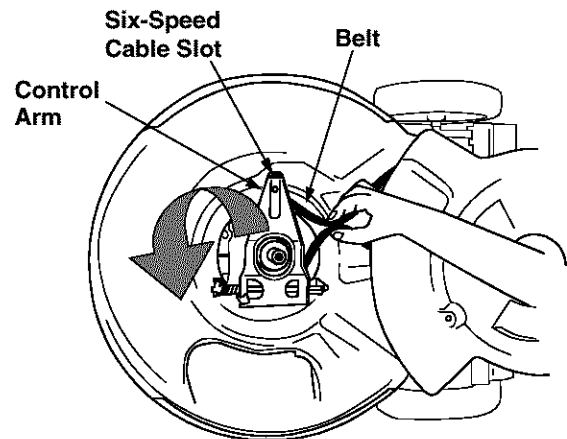

Figure 24
- Squeeze the belt together and push it forward, while pressing the control arm inward towards the deck. Remove the six-speed cable from the slot. See Figure 24.
- Pivot the control arm down and away from the pulley and the belt. See Figure 24.